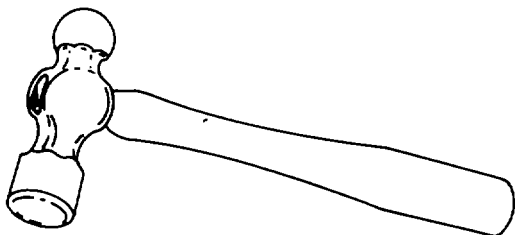

Figure 4-1. Ball Peen Hammer
(1) Ball peen hammer. The ball peen hammer is the type most often used by mechanics. It has a steel head and is usually available in 4-, 6-, 8-, and 12ounces, and 1, 1 1/2-, and 2-pounds. As figure 4-1 shows, this hammer is identified by the ball-shaped peen at the opposite end of the face.